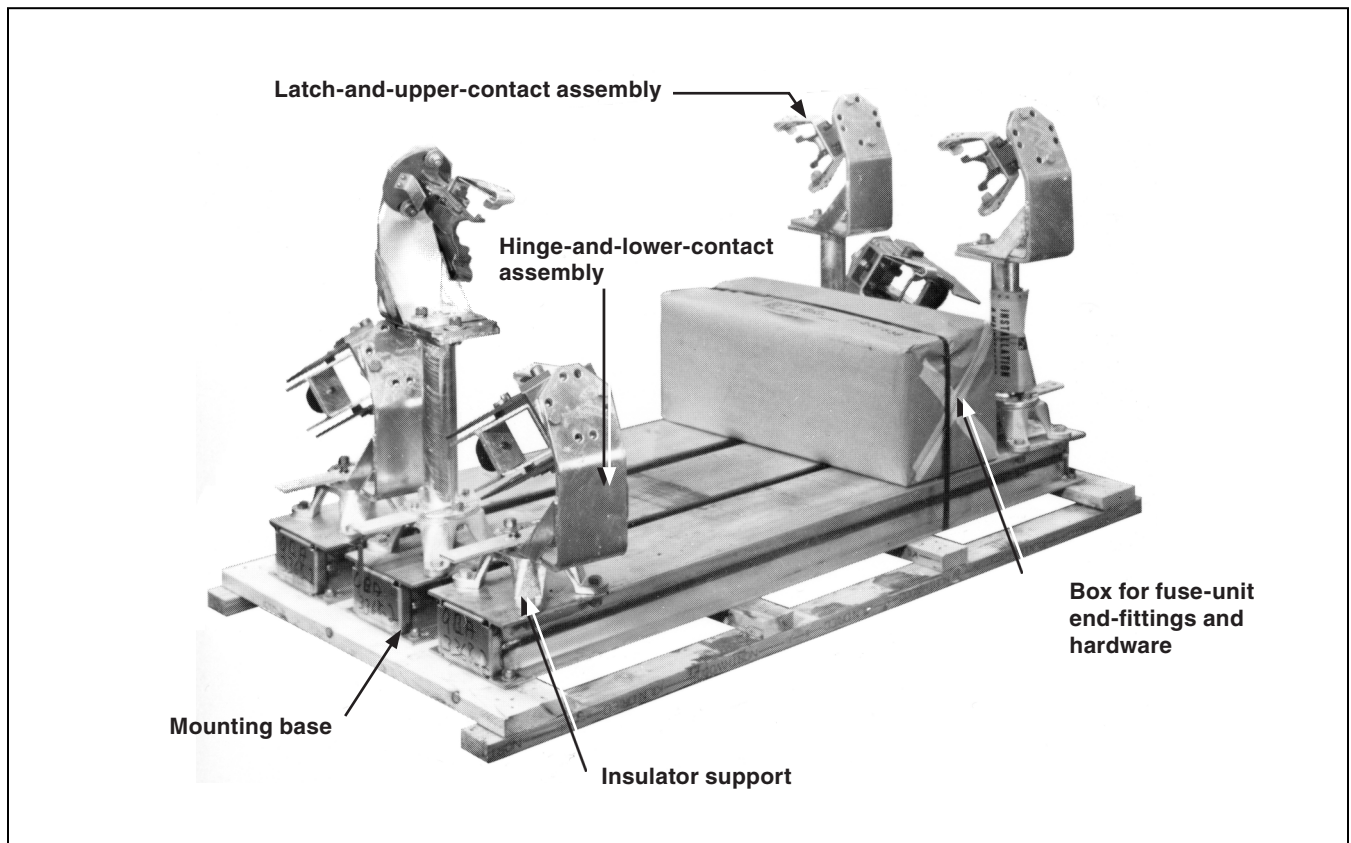

Figure 1. Three upright-style SMD-2B mountings on skid with outer crate removed.
STEP 2. Unbolt and remove the latch-and-upper-contact assembly, leaving the insulator support bolted to the mounting base. See Figure 1. Similarly, unbolt and remove the hinge-and-lower-contact assembly.